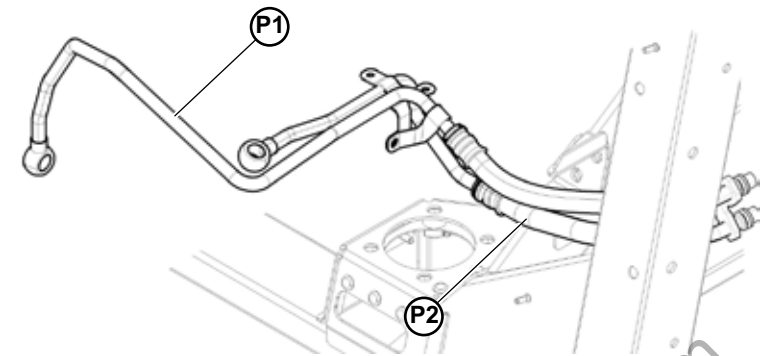

Fig.11
4. Remove and extract the rear **P1** and **P2** gearbox oil circuit pipes (**Fig.11**)